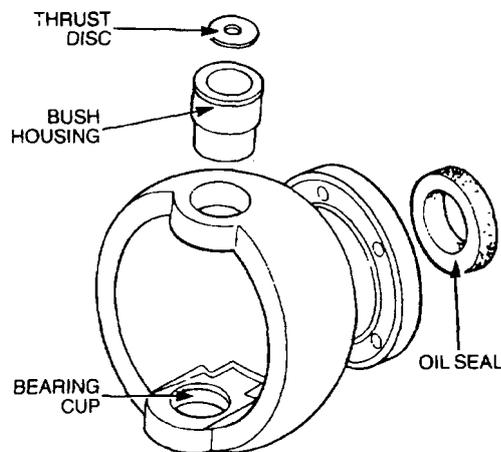

Figure 257 Bearing Housing Disassembly
- a. Remove the oil seal from the bearing housing and using a suitable press, remove the lower bearing cup and upper bush housing (Figure 257).
- c. Press the oil seal into the bearing housing, plain side first (Figure 257) and smear grease around the seal lip.